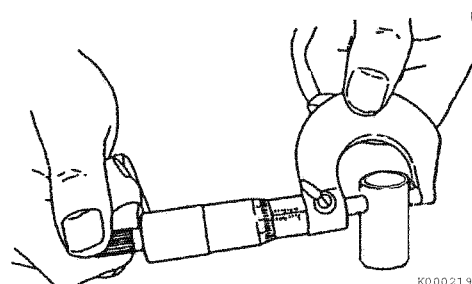

Figure 6-75
2. Measure the outside diameter of the tappet stem (1, **Figure 6-75**). Record the measurements. *See Tappet on page 6-12 for the service limit.*